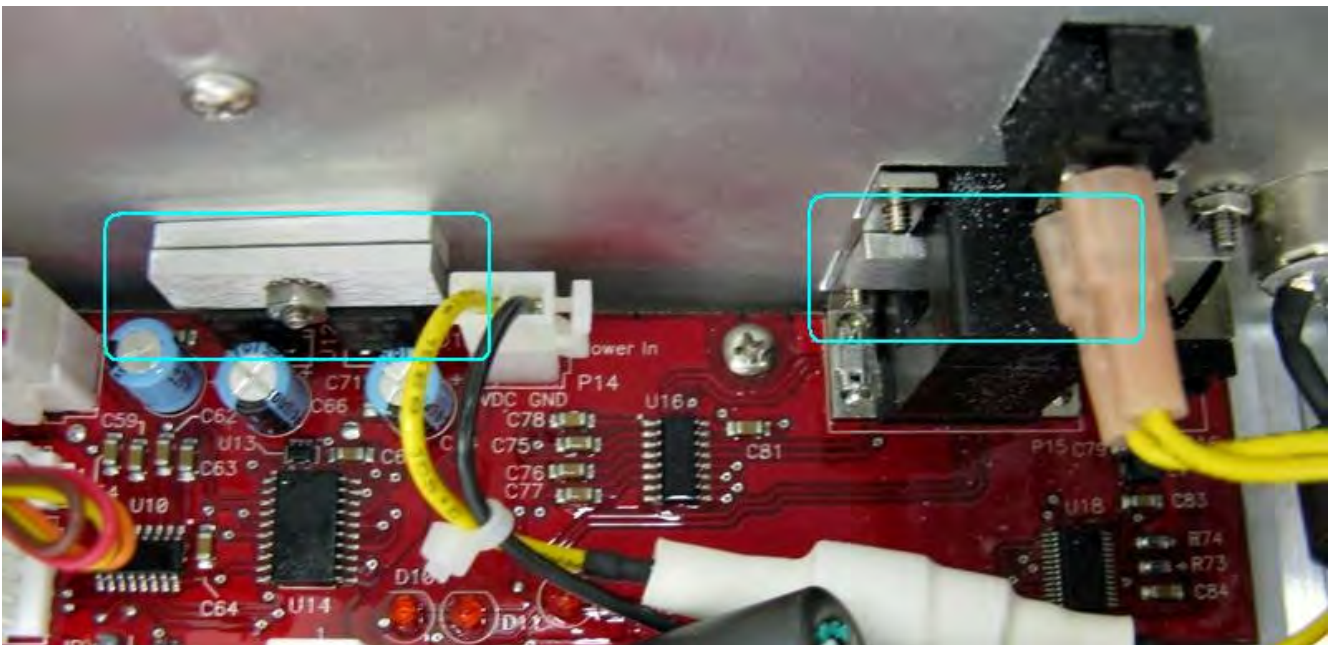

Figure 1-17. Comm port mounting screw is located on the back side of the sampler.
16. Remove the ¼ inch nut holding the heat sink for the voltage regulators and the mounting screw for the comm port retaining strap. See Figure 1-17.
23. Replace voltage regulator heat sink strap and align straps evenly, then tighten down ¼ inch nut. See Figure 1-17.